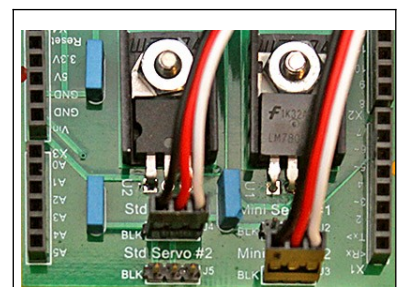

Figure 8: Servo connections
- Plug a servo into the **Std Servo #1** or **Std Servo #2** connector (J4 or J5) on the servo shield. The black or brown wire should be on the pin labeled **BLK** (left pin in **Figure 8**).